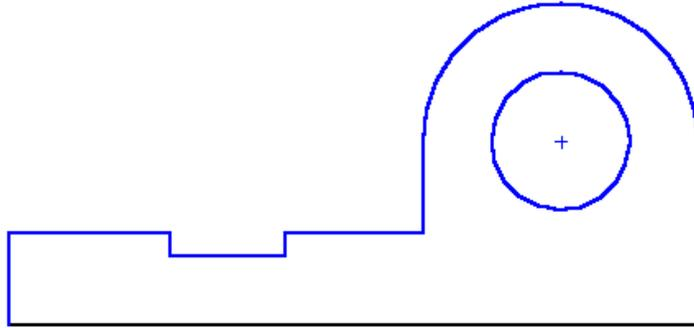

Figure 1-57 Final sketch for Tutorial 3
- e. Draw the inner circle using the **Circle** tool, refer Figure 1-57
The final sketch for Tutorial 3 is shown in Figure 1-57.